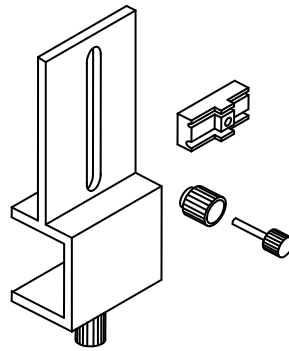

Fig.14 Disassembly of EZU-PA3U
- 2) Disassemble the EZU-PA3U (Fig.14) and immerse all parts in sufficient amount of high quality tap water. Scrub them using soft cloth to remove all visible soil and dried protein from their surface.